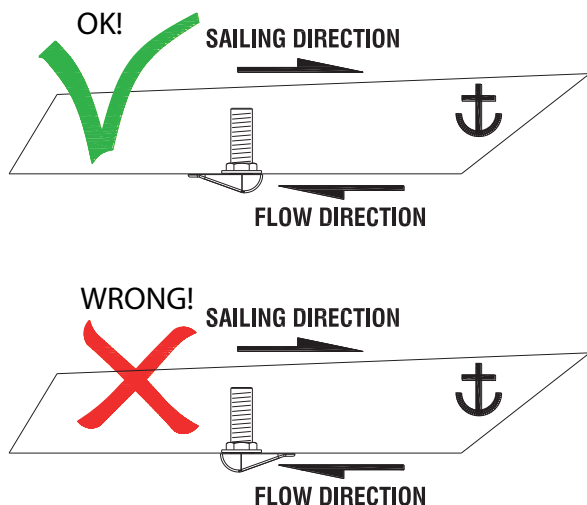

Fig.9: Installing the water intake
**This should not be done in the case of a generating set! When sailing at higher speeds, water will be forced into the inlet and your generating set will overflow! (see Figure 9).**